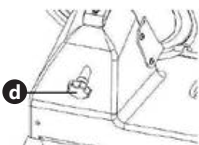

Fig. 6
- In order to remove the knife cover (3) for cleaning loosen the fixing screw (d) on the back side of the device (fig. 6) and push it towards the knife cover. Remove the knife cover.